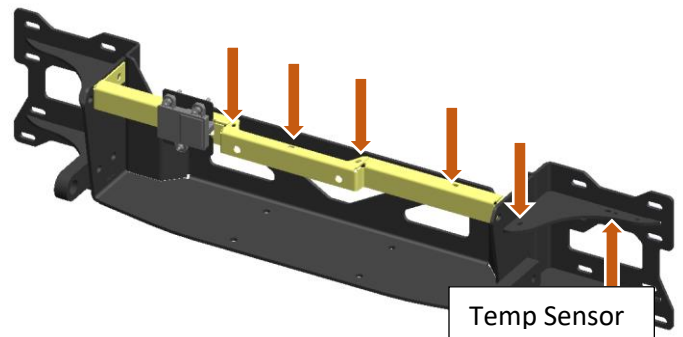

Figure 32: Front Radar and Temperature Sensor Routing
- Install radar wiring harness into pre-cut holes on bumper support (Figure 32).